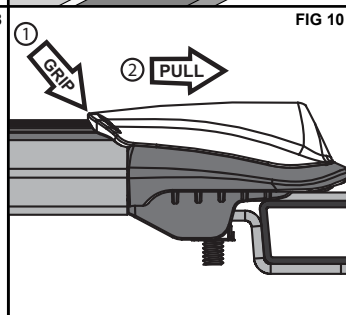

FIG 10
11. To remove the Covers, firmly grip the edge of the Cover with your fingers (as shown by arrow ① in Fig. 10), and pull the Cover towards you (arrow ② in Fig. 10).